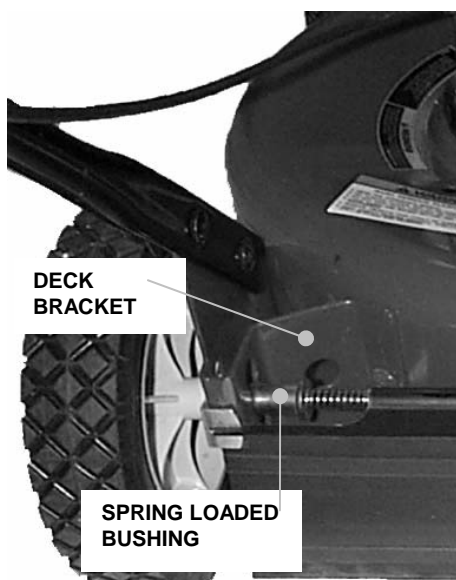

FIGURE 2.8
**1. FRONT WHEELS:** Reposition the front axle by raising the front wheels off the ground, then pull in the spring loaded bushings until they clear the brackets. Move bushings to the desired height of cut position and release the bushings. See Figure 2.8.
**2. REAR WHEELS:** Reposition the rear axle by raising the rear wheels off the ground, then pull in the spring loaded bushings until they clear the brackets. Move bushings to the desired height of cut position and release the bushings. Position the rear bushings in to the same notches corresponding with notches for the front wheels to maintain the level of the deck. See Figure 2.8.